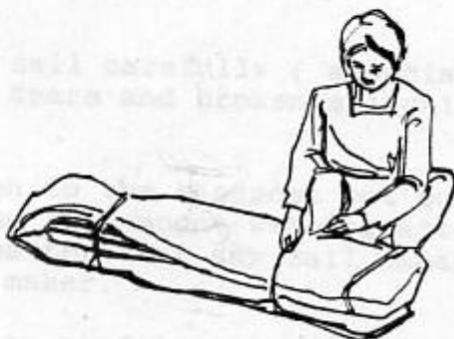

Fig. 5.3.5.
22. Fold the bag with the sail so that you have a package 4.4 metres long and then cover the tubes from the top. Tighten the package with the tapes (Fig. 5.3.5).